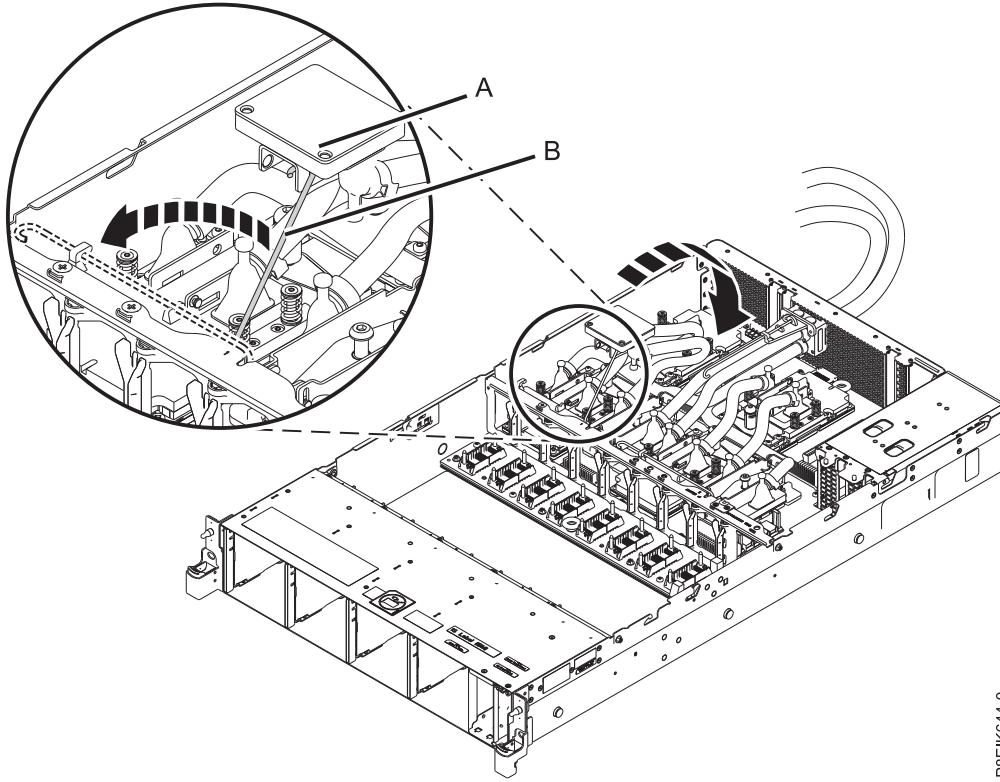

Figure 84. Aligning the cold plate on the GPU
- a. Unhook the cold plate (**A**) from the service hook (**B**) and carefully align the cold plate onto the GPU. See Figure 84 on page 69.